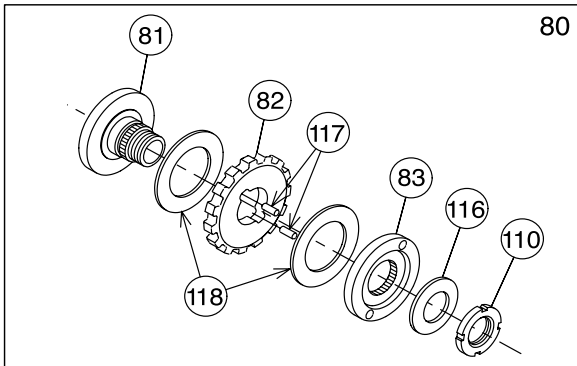

Figure 9: Overload Protection Device
Reducing the load to the rated capacity or less will automatically restore the normal operation of the unit. To convert a standard LSB-C lever hoist to a unit with the overload protection, replace reference no. 80 (See Figure 9).
The load limiter may require adjustment when it slips at or below the rated load. Refer to chart below for the correct torque setting for the load limiter. Only adjust the load limiter by item 110 in Figure 9. If the load limiter cannot be corrected by adjusting the torque setting or if any of the parts are damaged, replace the load limiter. A special tool is required to adjust Item 110 properly (Contact factory).